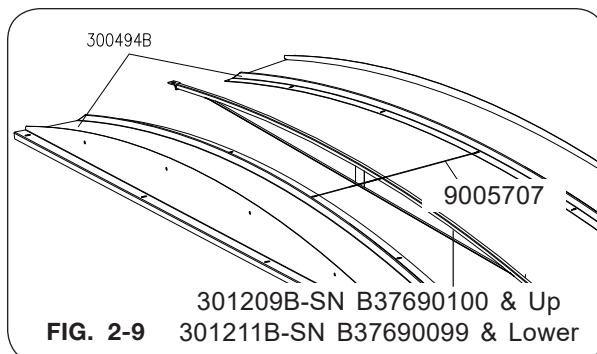

FIG. 2-9
6. Install perimeter wiring harness and connect to main harness. Crimp light wires to harness connectors, see Fig. 2-9. Assemble lights to fenders, with ground eyelets on mounting bolts.
7. Attach the cable assemblies (9005707) to the rear end cap holes, see FIG. 2-10. Run cables over the top of the bows (301209B - SN B37690100 & Up; 301211B - SN B37690099 & Lower). Route cables through holes in front end caps (FIG. 2-9). Insert capscrew (TA0-907131-0) through hole in front end cap and into bracket with U-nut assembly (281712B). Secure cables to the slot in bracket assembly (281712B) (FIG. 2-12). To tighten cables, tighten capscrew (TA0-907131-0) on outside of wagon until bracket makes cables snug tight. **Do not overtighten.** (FIG. 2-11) Plug the remaining holes in the rear end cap with plug (9005727).